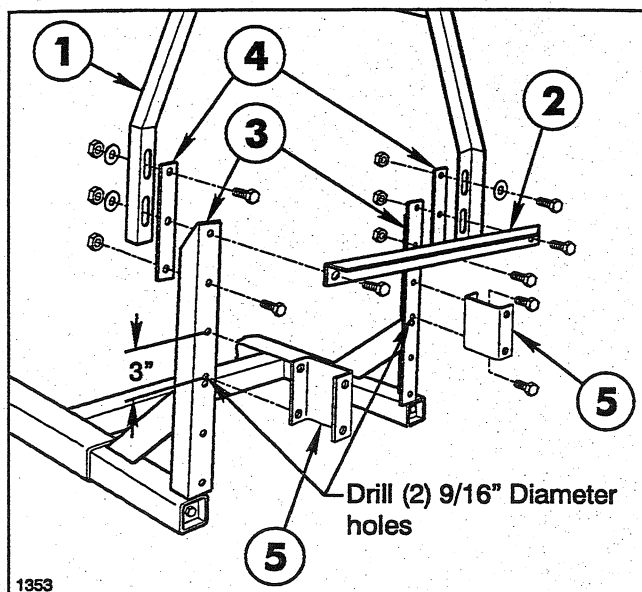

FIG. 1
1. Remove both Boom Hold-in Assemblies and Cross Angle from the Boom Mounts. Reassemble Boom Hold-in Assemblies and Cross Angle two holes higher than original position using (2) Hold-in Extensions, (3) 1/2 x 1-1/2" cap screws, locknuts and washers. See FIG. 1.
2. Remove the Boom Assembly by removing the (4) bolts securing the Boom Mounting Brackets to the Boom Mounts.
3. Locate, mark and drill (2) 9/16" diameter holes 3" below third hole from top of Boom Mount. See FIG. 1.